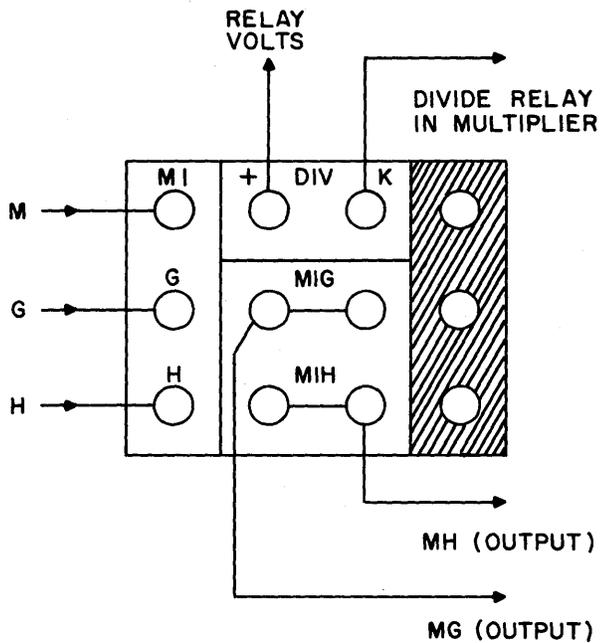

Figure 13. Electronic Multiplier Patching.
(4) *Electronic Multipliers.* Figure 13 shows inputs patched to M, G, and H, with products $-MH/100$ and $-MG/100$ available at the dual output terminals. To use the Electronic Multiplier as a divider, a red bottle plug is inserted into the DIV terminals labelled + and K. This operation energizes the divider relay in the multiplier. One output is produced in this mode of operation equal to $-M/100$, and is taken from the terminals marked MG.